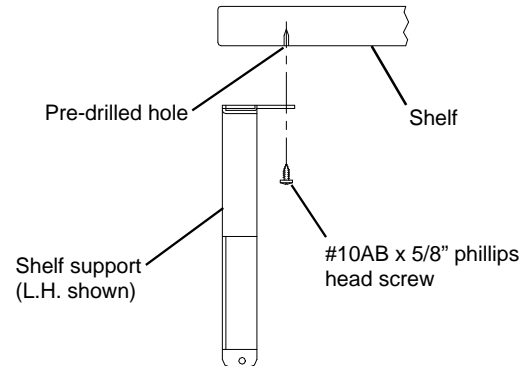

Figure 2
3. Align the pre-drilled holes in the bottom surface of the shelf with the holes in the left hand and right hand shelf supports. See **Figure 2**.
4. Fasten the shelf to the left /right hand shelf supports using the four #10AB x 5/8" long phillips head screws provided. See **Figure 2**.